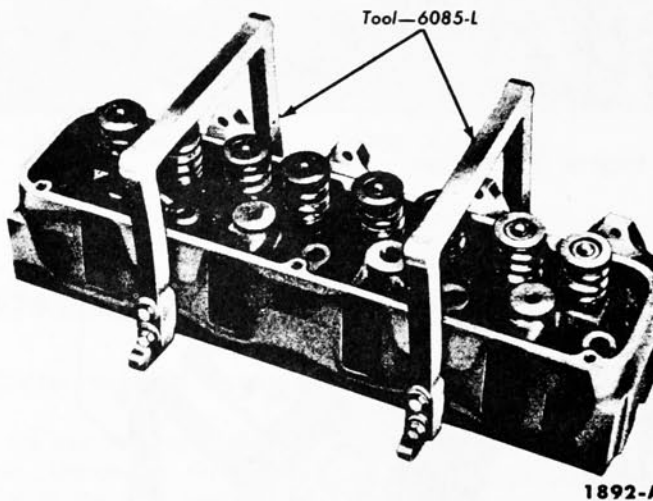

FIG. 12—Cylinder Head Holding Fixtures
4. Remove the spark plugs. Install the cylinder head holding fixtures (Fig. 12). Remove the cylinder head bolts. Lift the cylinder head off the block. **Do not pry between the head and block.** Remove and discard the cylinder head gasket.